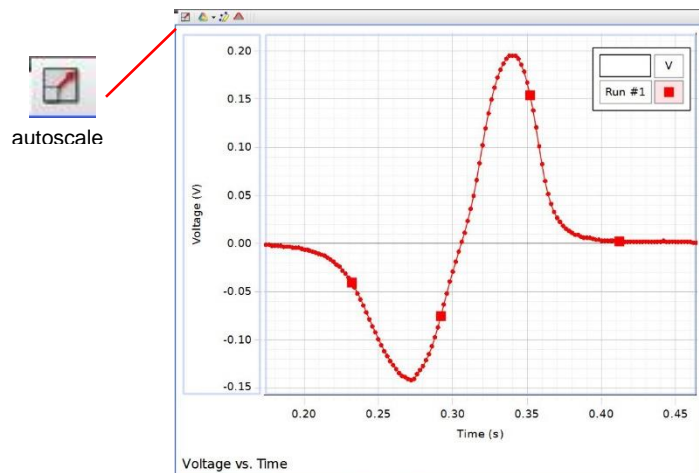

Figure 12
4. Hold one of your magnets just above the photogate with its north pole facing down. Drop the magnet through the photogate so that the broad side of the magnet blocks the photogate as the magnet passes through. Data recording should stop automatically after the magnet falls through the solenoid. In *Capstone*, you should see a **Graph** that looks something like Figure 12. Note: the sign of your peaks may be opposite to those shown.